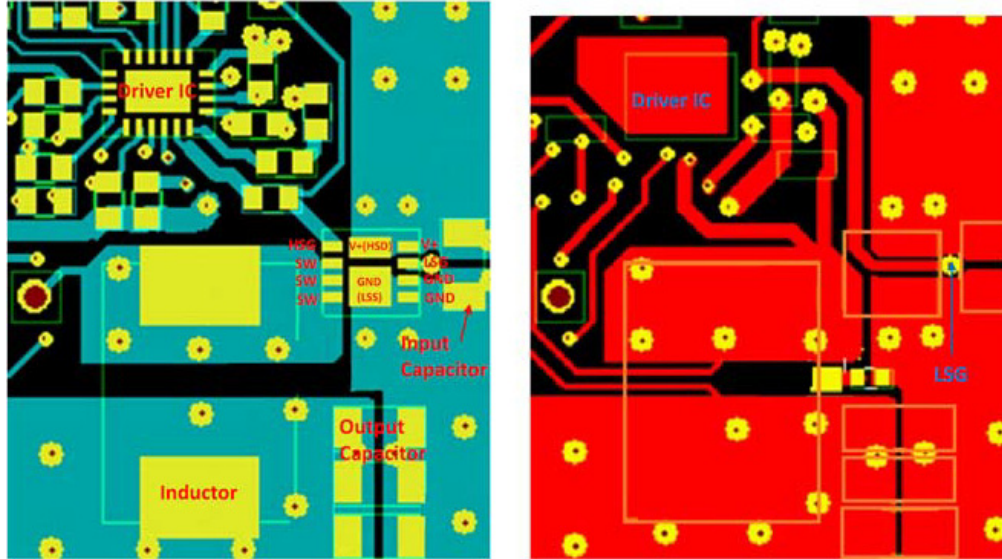

Figure 31. Top/Component (Green) View and Bottom (Red) PCB View
Figure 31 shows an example of a well designed layout. The discussion that follows summarizes the key features of this layout.
transients. The trace should be short and wide to enable a low resistance path and to minimize the size of the noise region. Care should be taken to minimize coupling of this trace to adjacent traces. The layout in Figure 31 shows a good example of this short, wide path.
- "The Power Clip has very good Junction-PCB heat transfer from all power pins. It has much better heat transfer Junction-GND (LSS) than traditional dual FET packages. In most cases, board ground will be the most effective heat transfer path on the PCB. Use a large copper area between GND / GND(LSS) PAD pins and board ground. To ensure the best thermal and electrical connection to ground, we recommend using multiple vias to interconnect ground plane layers as shown in Figure 31.